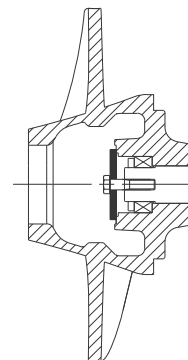

Fig. 35 Tool for keeping propeller/impeller in place
5. Mount a straight piece of metal with a hole in the middle, and tighten down the propeller/impeller. See fig. 35.